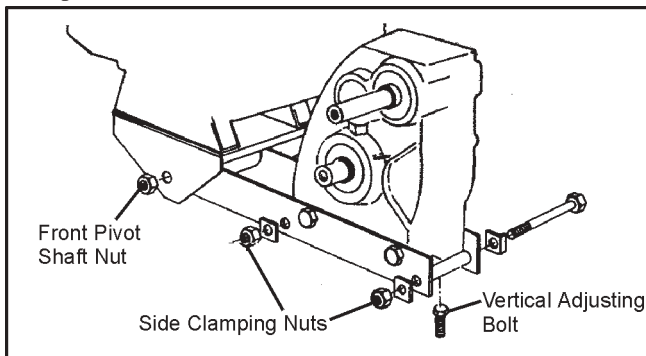

Figure 7-16. Location of power pack clamping nuts and adjusting bolts
2. Loosen the 2 left side clamping nuts and 1 front pivot shaft nut with a 15/16" socket wrench (figure 7-16). Loosen the 3/8" hex nut (117-15) securing the adjustment support (602-27), just above the transmission, to the hood frame assembly. (Refer to Section 6.0 of the Parts Manual.)
Loosen the power pack clamping nuts and adjusting bolts as shown in Figure 7-16 and proceed as follows: